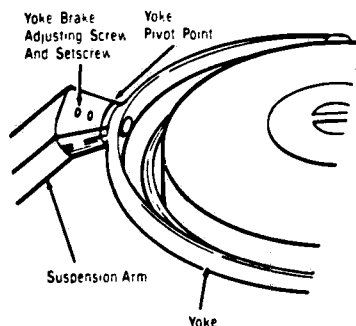

Figure 4-13. YOKE BRAKE ADJUSTMENT.
4.9.3 Yoke Brake Adjustment (See Figure 4-13)